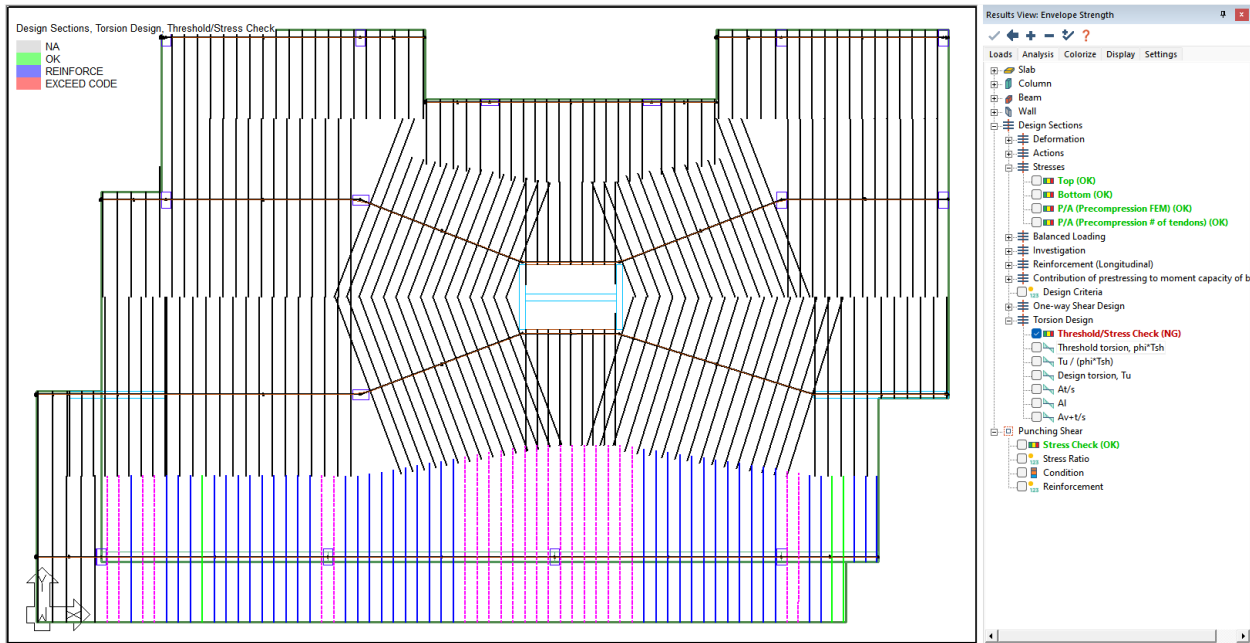

FIGURE 9-119
- Check the box next to **Threshold/Shear Stress Check** by clicking on it. Note that torsion results are a strength requirement and therefore a strength combination or the strength envelope combination must be chosen in the *Results View* panel *Loads* tab to view these results. The user should now see the *Threshold/Stress Check* result along the beam support line as shown in **FIGURE 9-119**. Design sections colored grey have not been checked for torsion. Green design sections indicate the torsional threshold has not been exceeded. Blue design sections are sections where the torsional threshold has been exceeded and the program has calculated additional reinforcement to resist torsional moments. Lastly, pink design sections are sections where the concrete section is inadequate to resist torsional moments and will need to be revised through geometry, material, and/or loading changes.
We can see in **FIGURE 9-119** that some sections in our beam are inadequate to resist torsional forces. For this tutorial, we will accept the design. Note that the user can also check other torsional results including the torsional threshold ($\phi \cdot T_{sh}$), Design torsion (T_u), Area of transverse reinforcement needed to resist torsional moments (A_t/s), Area of longitudinal reinforcement needed to resist torsional moments (A_l), and the combined transverse reinforcement needed to resist one-way shear and torsional forces ($A_v + t/s$). In addition, when viewing the design section results the user can create a detailed calculation report showing the detailed calculation for one-way shear and torsion. This will be covered in **Section 9.11** of this tutorial.